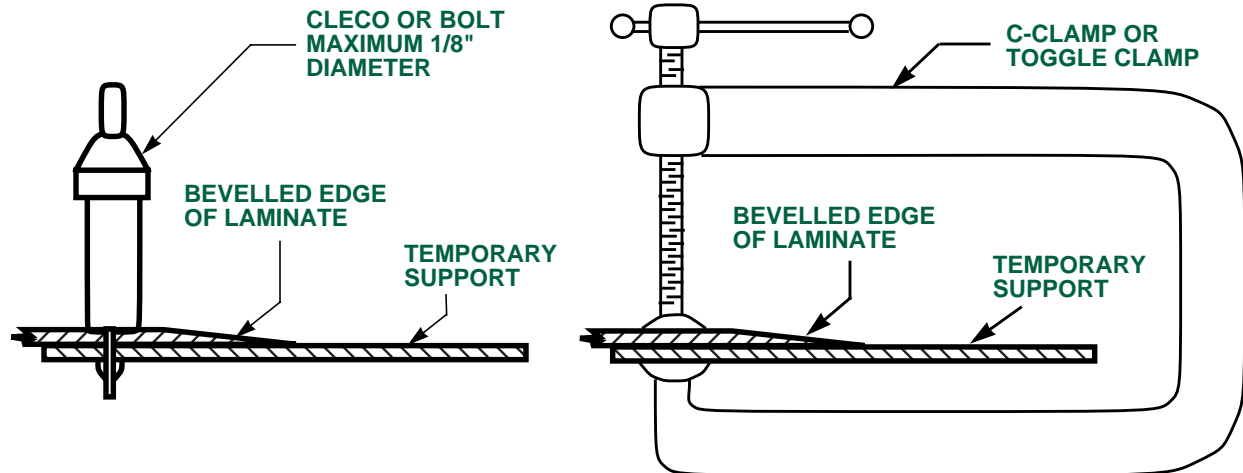

FIGURE 6 - ATTACHING TEMPORARY SUPPORT
- Step 4. Provide temporary support to the area to be built-up using aluminum, polycarbonate or similar sheet material coated with release agent according to PPS 10.22 (see Figure 6).